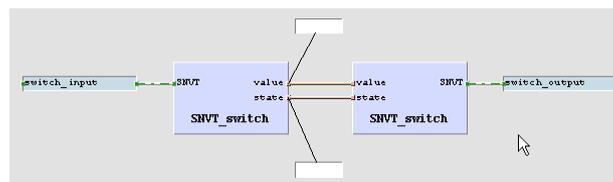

Figure 16: Online Test fields
13. Place the fields above and below the drawing as shown in Figure 16, then press the **Save** button to save your changes.